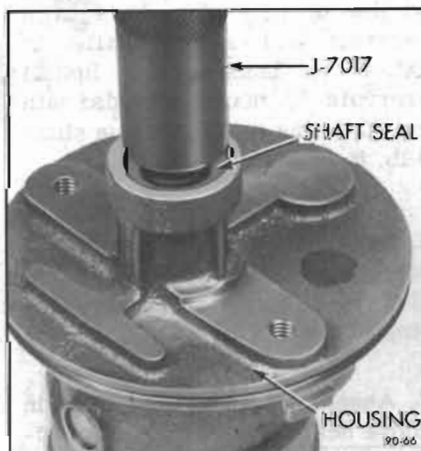

Figure 90-66—Installing Shaft Seal
2. If shaft seal was removed, use Installer J-7017 to drive new seal into housing with spring side of seal toward housing. See Figure 90-66. Just bottom seal in housing.